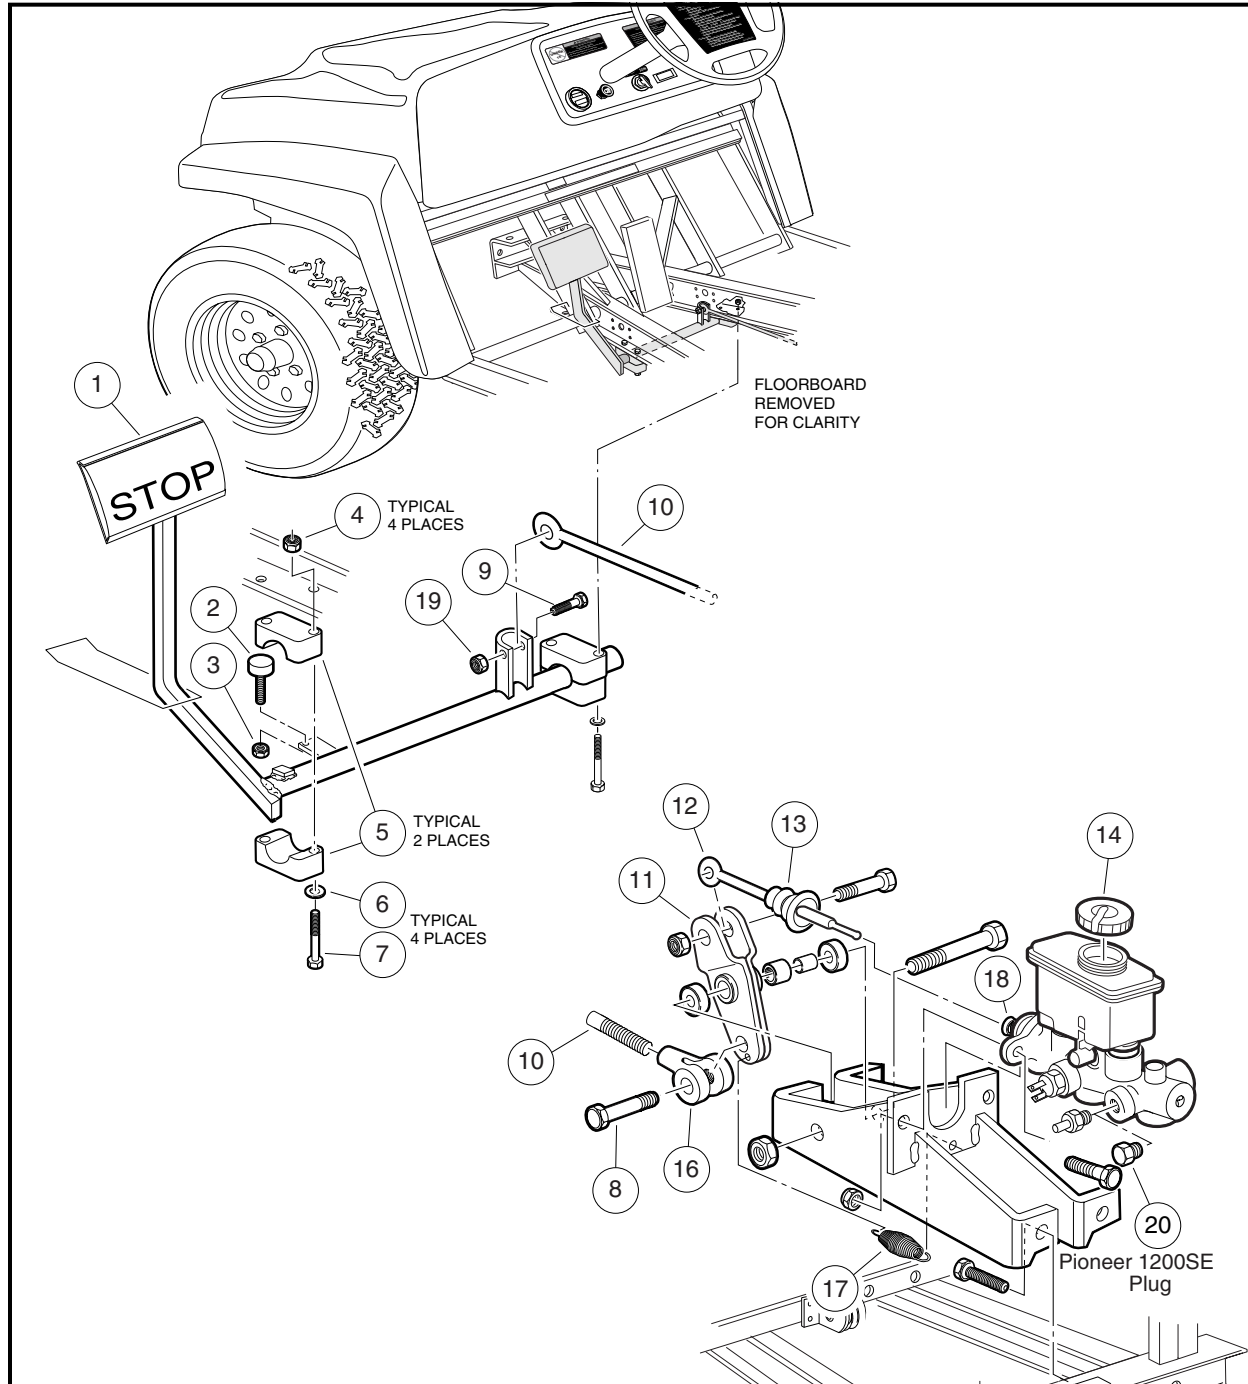
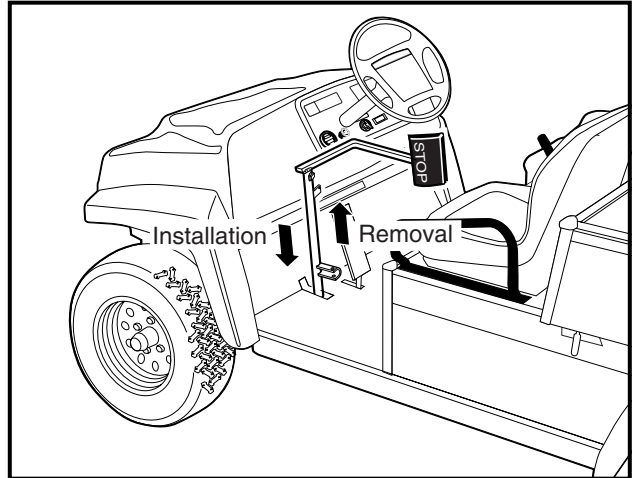
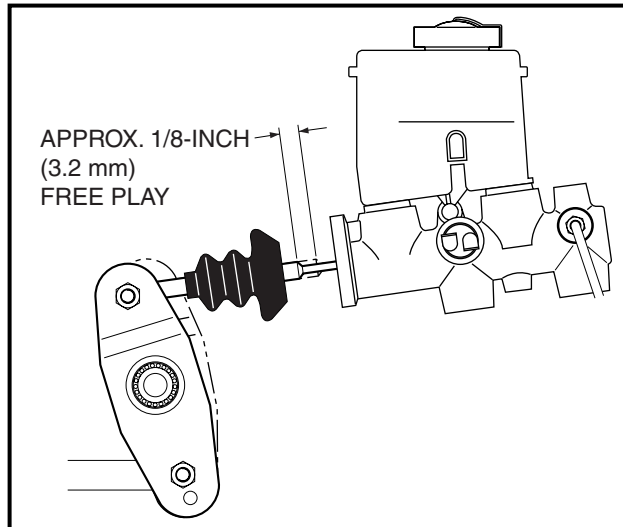

Figure 5-1 Brake Pedal Assembly
Figure 5-3 Brake Pedal Weldment Through Floor
Figure 5-6 Push Rod Free Play
- 5.1. Remove the bolt (9) and nut (19) (Figure 5-1, Page 5-2).
- 5.4. Lift pedal assembly (1) through the floorboard (Figure 5-3, Page 5-3).
1. Insert the brake pedal assembly (1) through the top side of the floorboard (Figure 5-3, Page 5-3) and install the brake pedal stop bumper (2) and nut (3) (Figure 5-1, Page 5-2) but do not tighten.
2. Position and attach brake pedal assembly and mounting blocks (5) with bolts (7), washers (6), and lock-nuts (4). Tighten to 70 in-lb (7.91 N·m) (Figure 5-1, Page 5-2).
3. Attach the equalizer rod (10) to the brake pedal assembly (1). Tighten to 17 in-lb (1.9 N·m).
2. Remove the rod retaining bolt (8) and clevis (16) from the bell crank assembly (11) (Figure 5-1, Page 5-2).
8. Adjust the clevis (16) by rotating it so that the rod retaining bolt (8) can be placed through the clevis (16) and the bottom hole in the bell crank assembly (11) (Figure 5-1, Page 5-2). See following NOTE.
- NOTE:** The spring (17) should not be under tension while the brake pedal is at rest.
9. Install the rod retaining bolt (8) through the clevis (16) and the bell crank (11). Tighten the bolt to 14 ft-lb (19 N·m).
10. There should be at least 1/8-inch (3.2 mm) of free play (at the push rod) before the push rod begins to depress the master cylinder piston (Figure 5-6, Page 5-4). See following NOTE.
**NOTE:** Brake pedal free play is the distance the push rod (12) travels before the master cylinder piston (18) is depressed (**Figure 5-1, Page 5-2**). Also see **Figure 5-6, Page 5-4**.